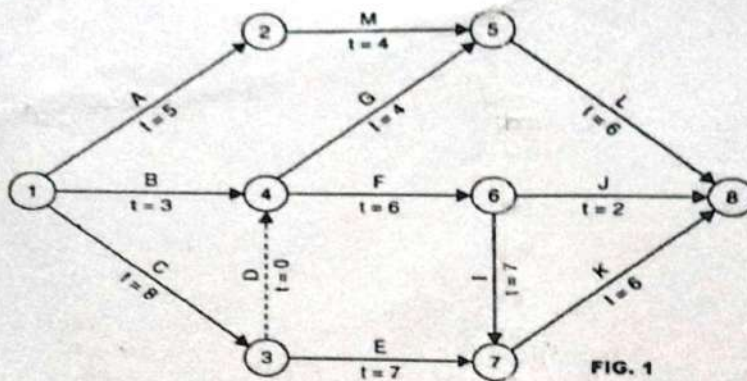

FIG. 1
no2: A network is given in below fig (FIG.1), with the expected time of completion of each activity. Determine the earliest expected time and latest occurrence time for each event. Also determine the critical path. (20)